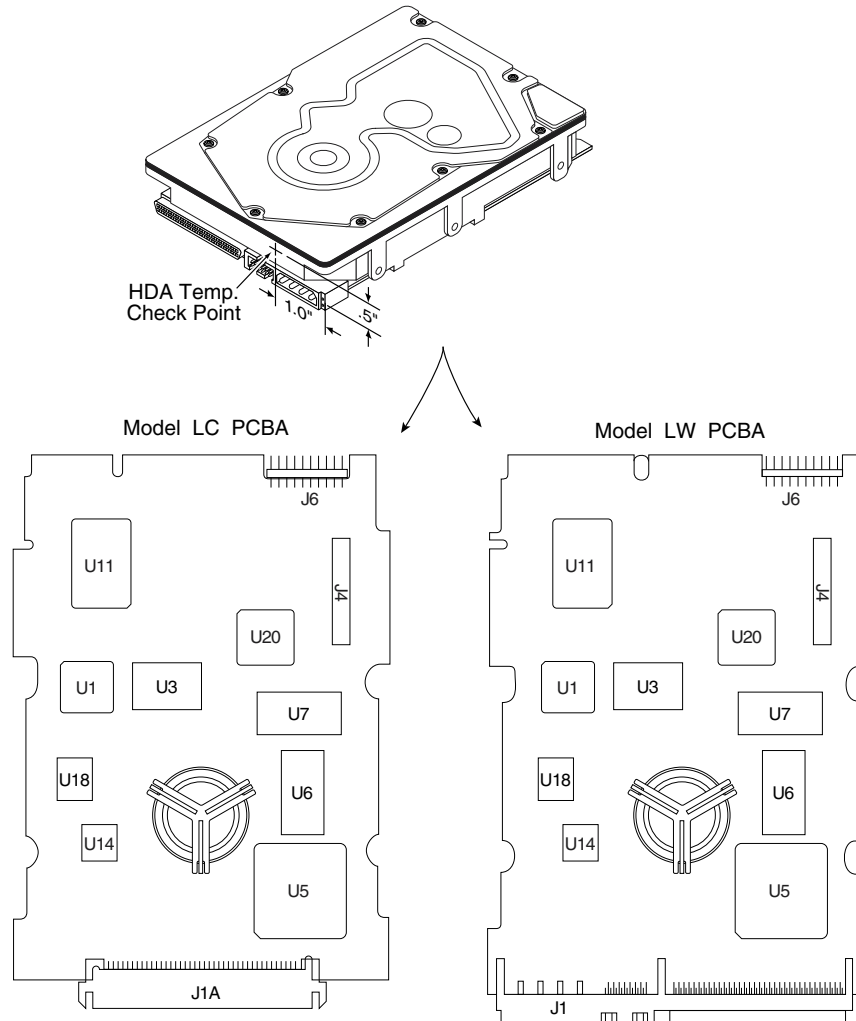

Figure 11. Locations of PCBA components listed in Table 4
| Items in Figure 11 | Maximum allowable case temperature (°C) operating | Maximum allowable case [3] temperatures (°C) to meet MTBF spec. |
- [2] Measure HDA temp at point labeled “HDA” on Figure 11.